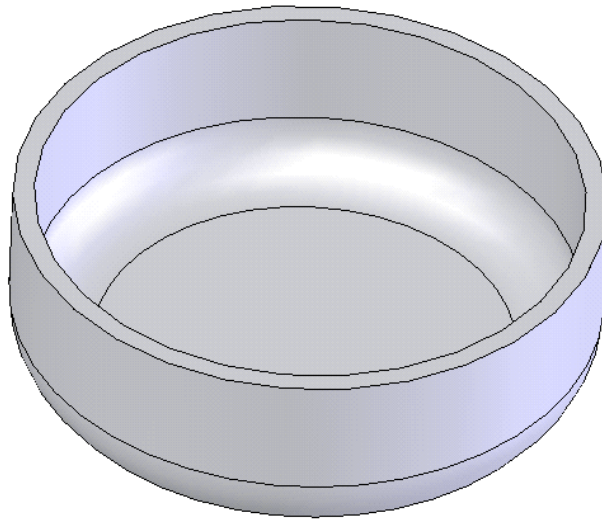

Figure 8-68 Shell feature added to the model
- Shell the model using the **Shell** tool, refer to Figure 8-68
3. Choose the **OK** button from the **Shell PropertyManager**. The shelled model is displayed in Figure 8-68.